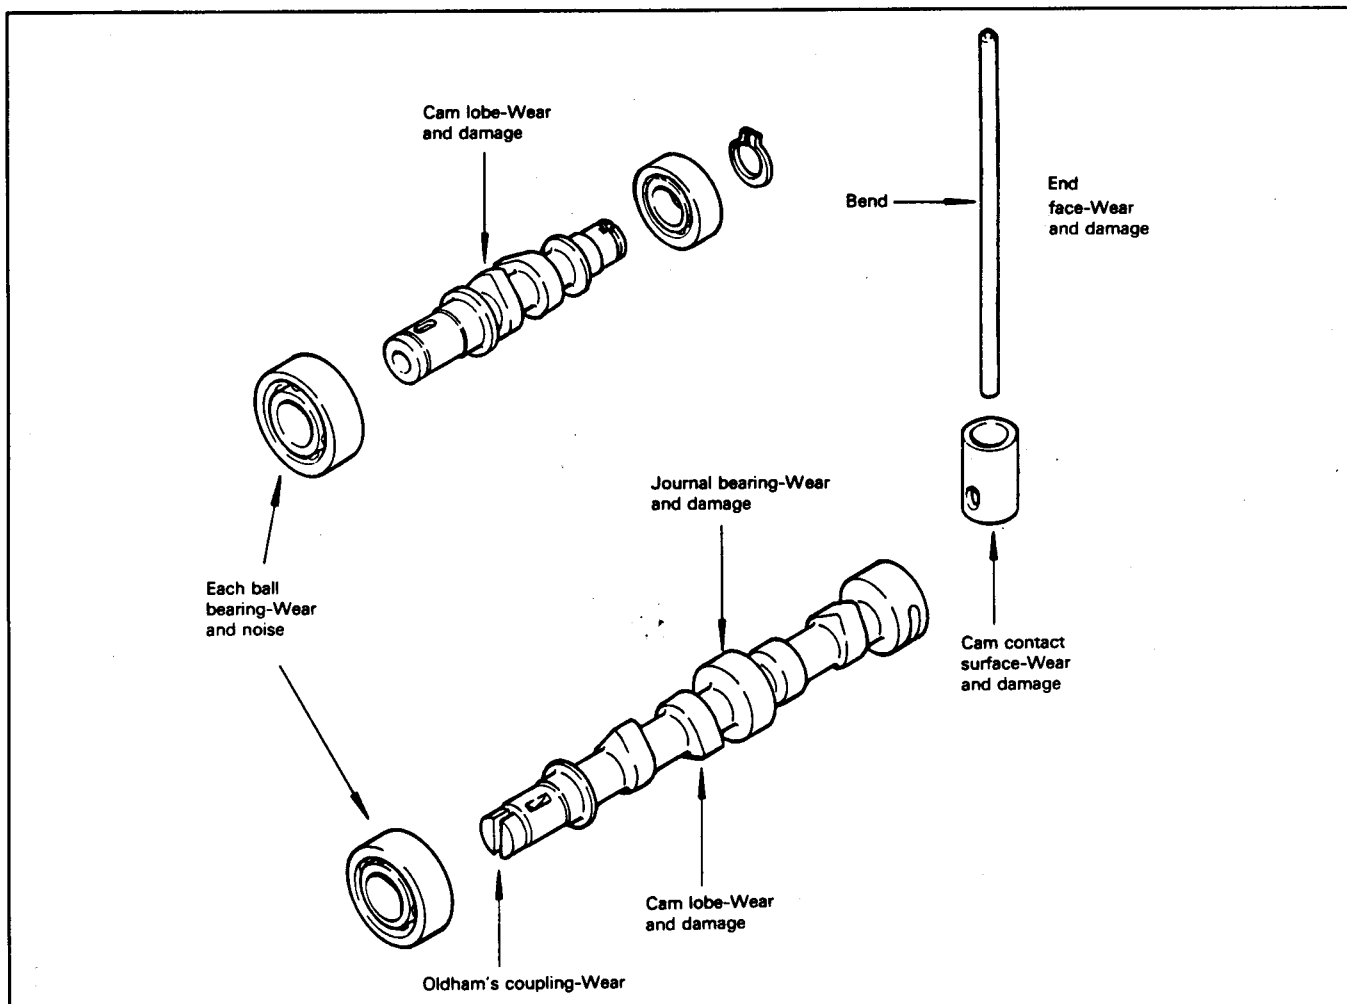

Figure 90
7. Inspect the camshaft parts (Fig. 90). Replace any parts that are worn or damaged.